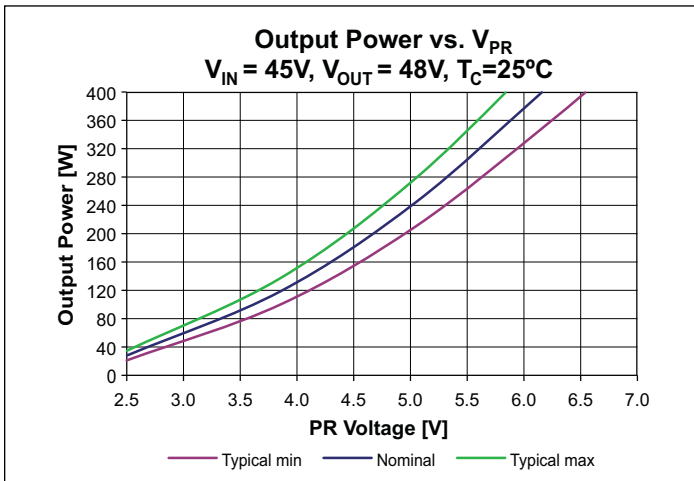

Figure 21 — Output Power vs. V_{PR} ; $V_{IN} = 45V$, $V_{OUT} = 48V$, $T_{CASE} = 25^\circ C$
Control node (PR) is the input to the control node which determines the powertrain timing and ultimately the module output power (Figure 21). An internal 0.5 mA current sink is always active. The bi-directional buffer between PR and the control node has two states. In normal operation, PR will be above the 0.79 V switching threshold, and will drive the control node through the buffer. An internal 7.4 V clamp determines the maximum output power that can be requested of the modulator.